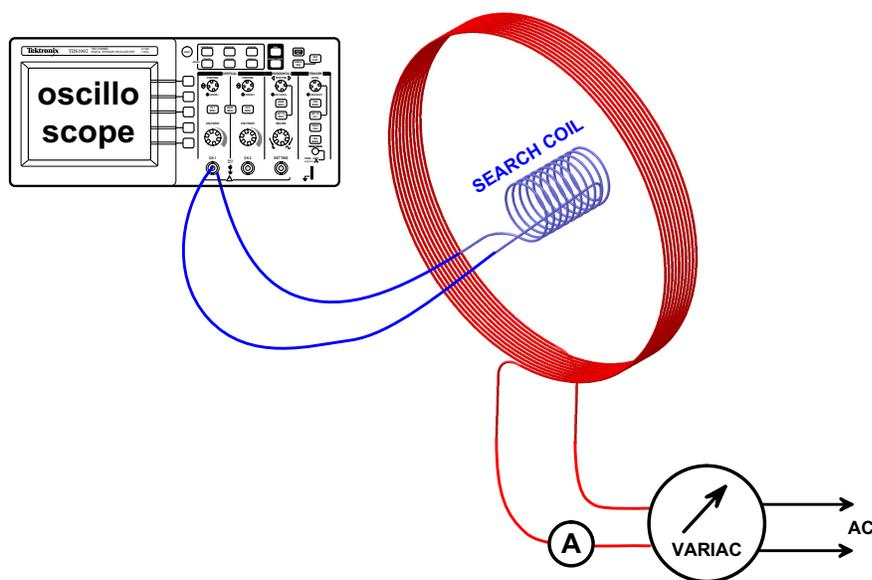

Figure 3: Electromagnetic induction within a coil.
A varying magnetic field is produced by a separate circuit, shown in Fig. 3, in which the current varies. We could therefore produce a varying magnetic field by using an alternating current (AC). The difficulty with this method, however, is that it produces a magnetic field which changes di-
According to Fig. 3, a variac (autotransformer) is connected to the AC line and the output of the variac is used to feed the circuit which consists of a large coil in series with an ammeter.